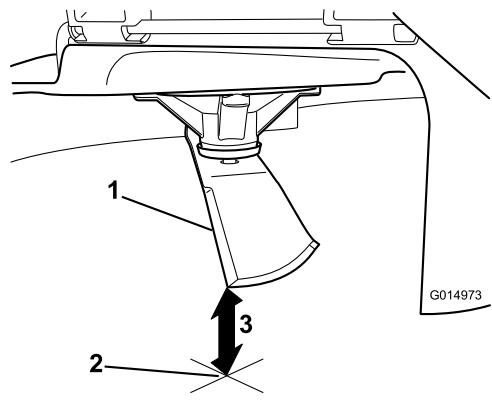

Figure 47
- Measure from the tip of the blade to the flat surface (Figure 47).